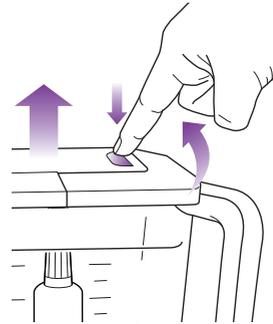

Fig. 6
- If the ingredients stick to the side of the container, stop the appliance by pressing the power button (⏻) and wait for the attachment to stop turning. Then remove the lid by pressing the release button, lifting the handle up and pulling straight up. (Fig. 6) Use a spatula to dislodge the pieces, replace the lid and continue processing.